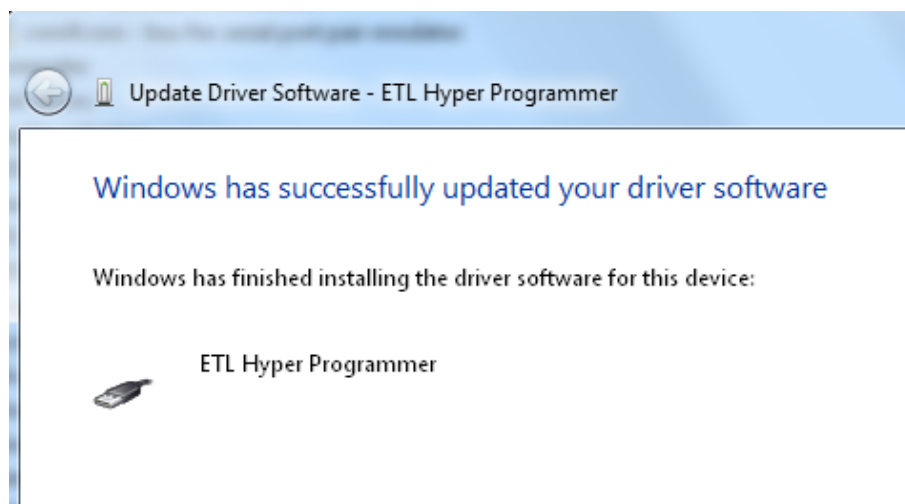

Figure 11. The "ETL Hyper Programmer" device successful installation
- Finally you will see the driver installation confirmation for the second device. (Figure 11).